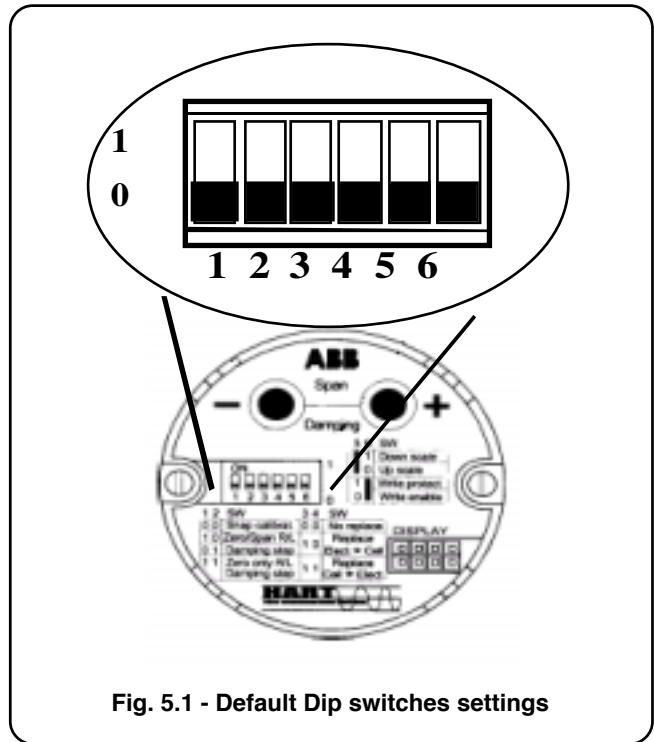

Fig. 5.1 - Default Dip switches settings
- d. If a "WRITE DISABLE" message appears on the Integral Display, check the Dip switches settings (you need to open the cover on the electronic side and to pull out the integral display: see figure 5.1).
4. Close equalizing (C) valve.
5. Open low pressure (B) valve.
- d. If the output is not 4 mA or the message "WRITE DISABLE" appears on the Integral Display, check the Dip switches settings (you need to open the cover on the electronic side and to pull out the integral display: see figure 5.1).